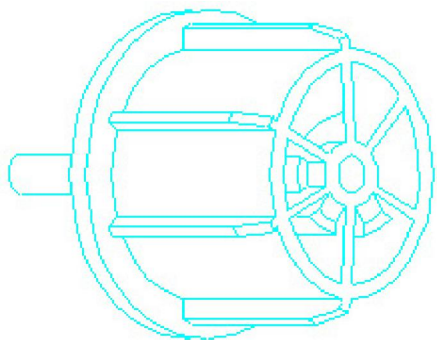

Figure 7
- g. One Back Wheel (Figure 7)